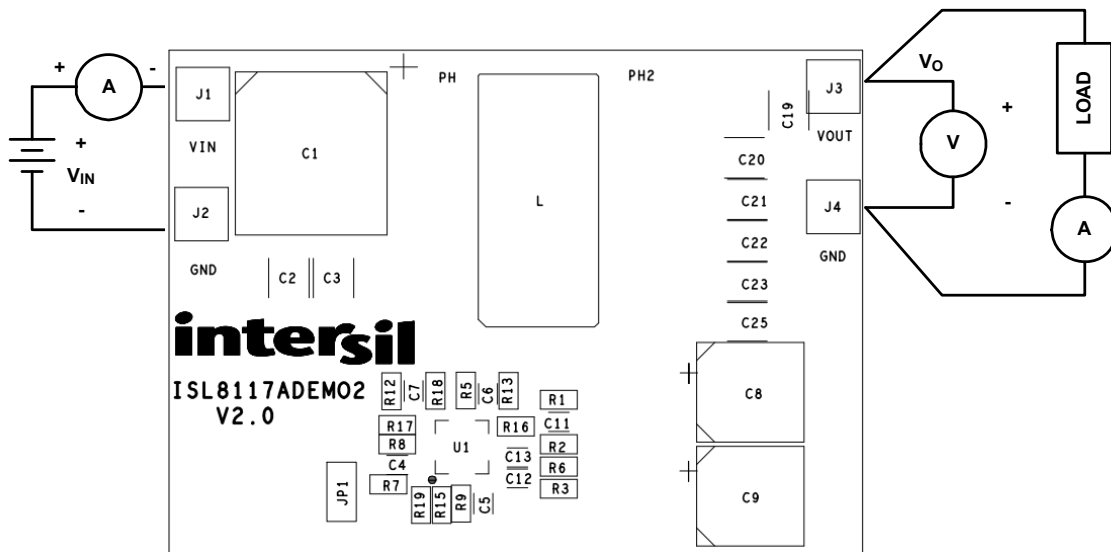

FIGURE 3. PROPER TEST SETUP
1. Ensure that the circuit is correctly connected to the supply and electronic loads prior to applying any power. Refer to Figure 3 on page 3 for proper setup.
As shown in Figure 3, 6.5V to 42V V_{IN} is supplied to J1 (+) and J2 (-). The regulated 1.2V output on J3 (+) and J4 (-) can supply up to 3A to the load.